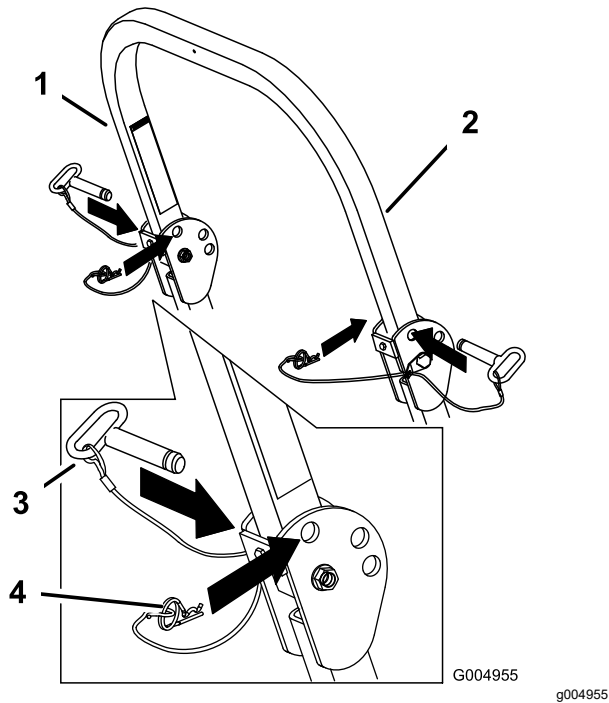

Figure 5
1. Remove the hairpin cotters and remove the 2 pins (Figure 5).
3. Install the 2 pins and secure them with the hairpin cotters (Figure 5).
2. Raise the roll bar to the upright position, install the 2 pins, and secure them with the hairpin cotters (Figure 5).